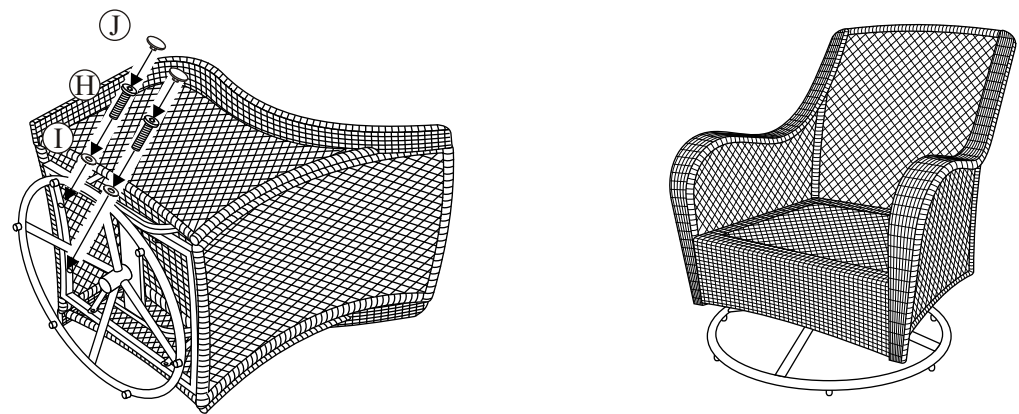

Fig.5
Step 4: Attach the complete base to the complete seat by using four 1/4"x45 mm bolts and washers as shown in **Fig.5**. Guide the bolts through holes in base, into the pre-drilled holes in the seat. **Hand tighten only.**